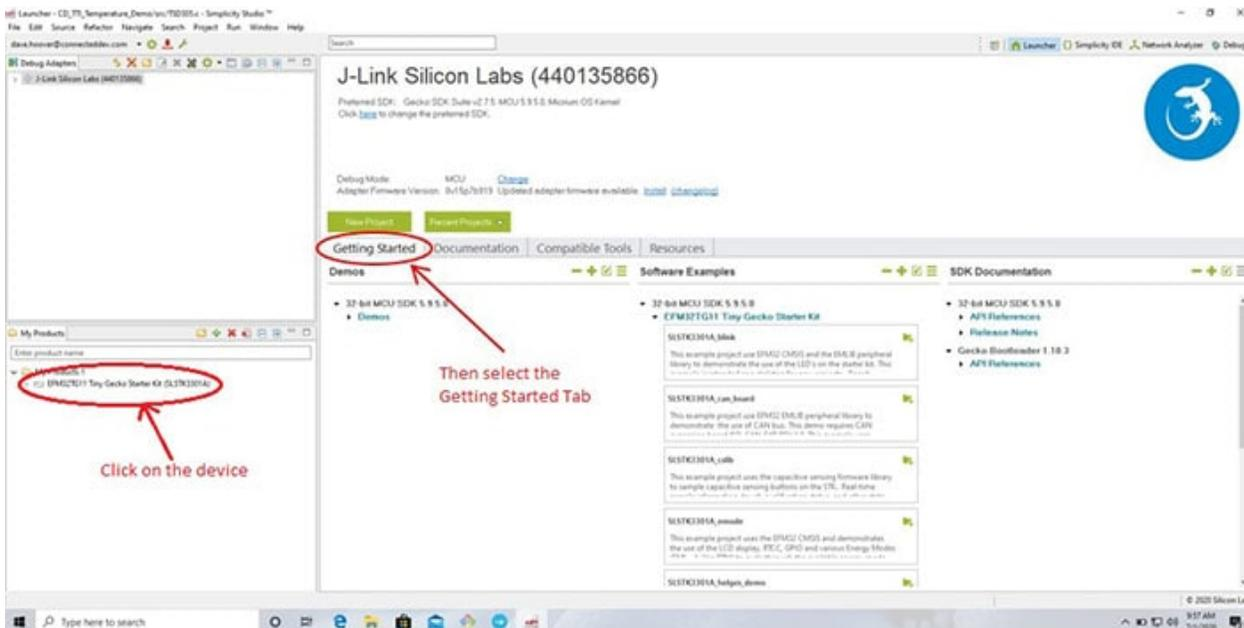

Figure 5: Getting Started tab. (Source: Simplicity Studio)
10. Click on the device and then the “Getting Started” tab (Figure 5).